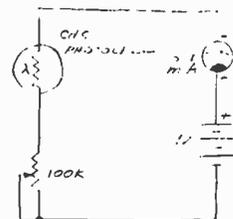

Fig. 2. Basic light meter.
**Simple Light Meter.** One of the most common applications for photoresistors is as sensing elements in light meters for photography. Figure 2 shows a simple light meter made from a CdS photoresistor, a 1-mA meter, and a low-voltage battery. Use any general-purpose CdS photocell with a high dark-to-light resistance ratio. You can connect the parts together with clip leads and have the circuit operating in a minute or two. But be sure the room lights are either off or very dim first. Otherwise the meter needle will swing over to its maximum